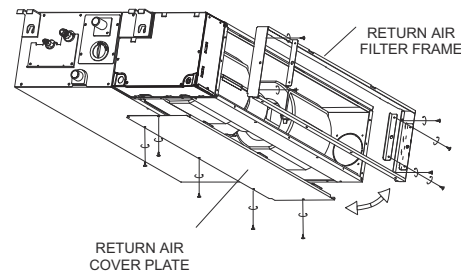

Fig. 10 —Removing Air Filter Frame and Cover Plate
2. Remove the screws that secure the return air cover plate to the bottom of the unit and set the cover plate aside. See Fig. 10.